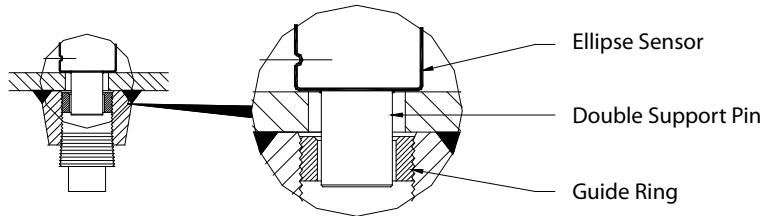

Figure 4: Double support pin
3. Install the Ellipse AHR sensor through the two holes. Make sure that the double support pin passes through the guide ring. See Figure 4.